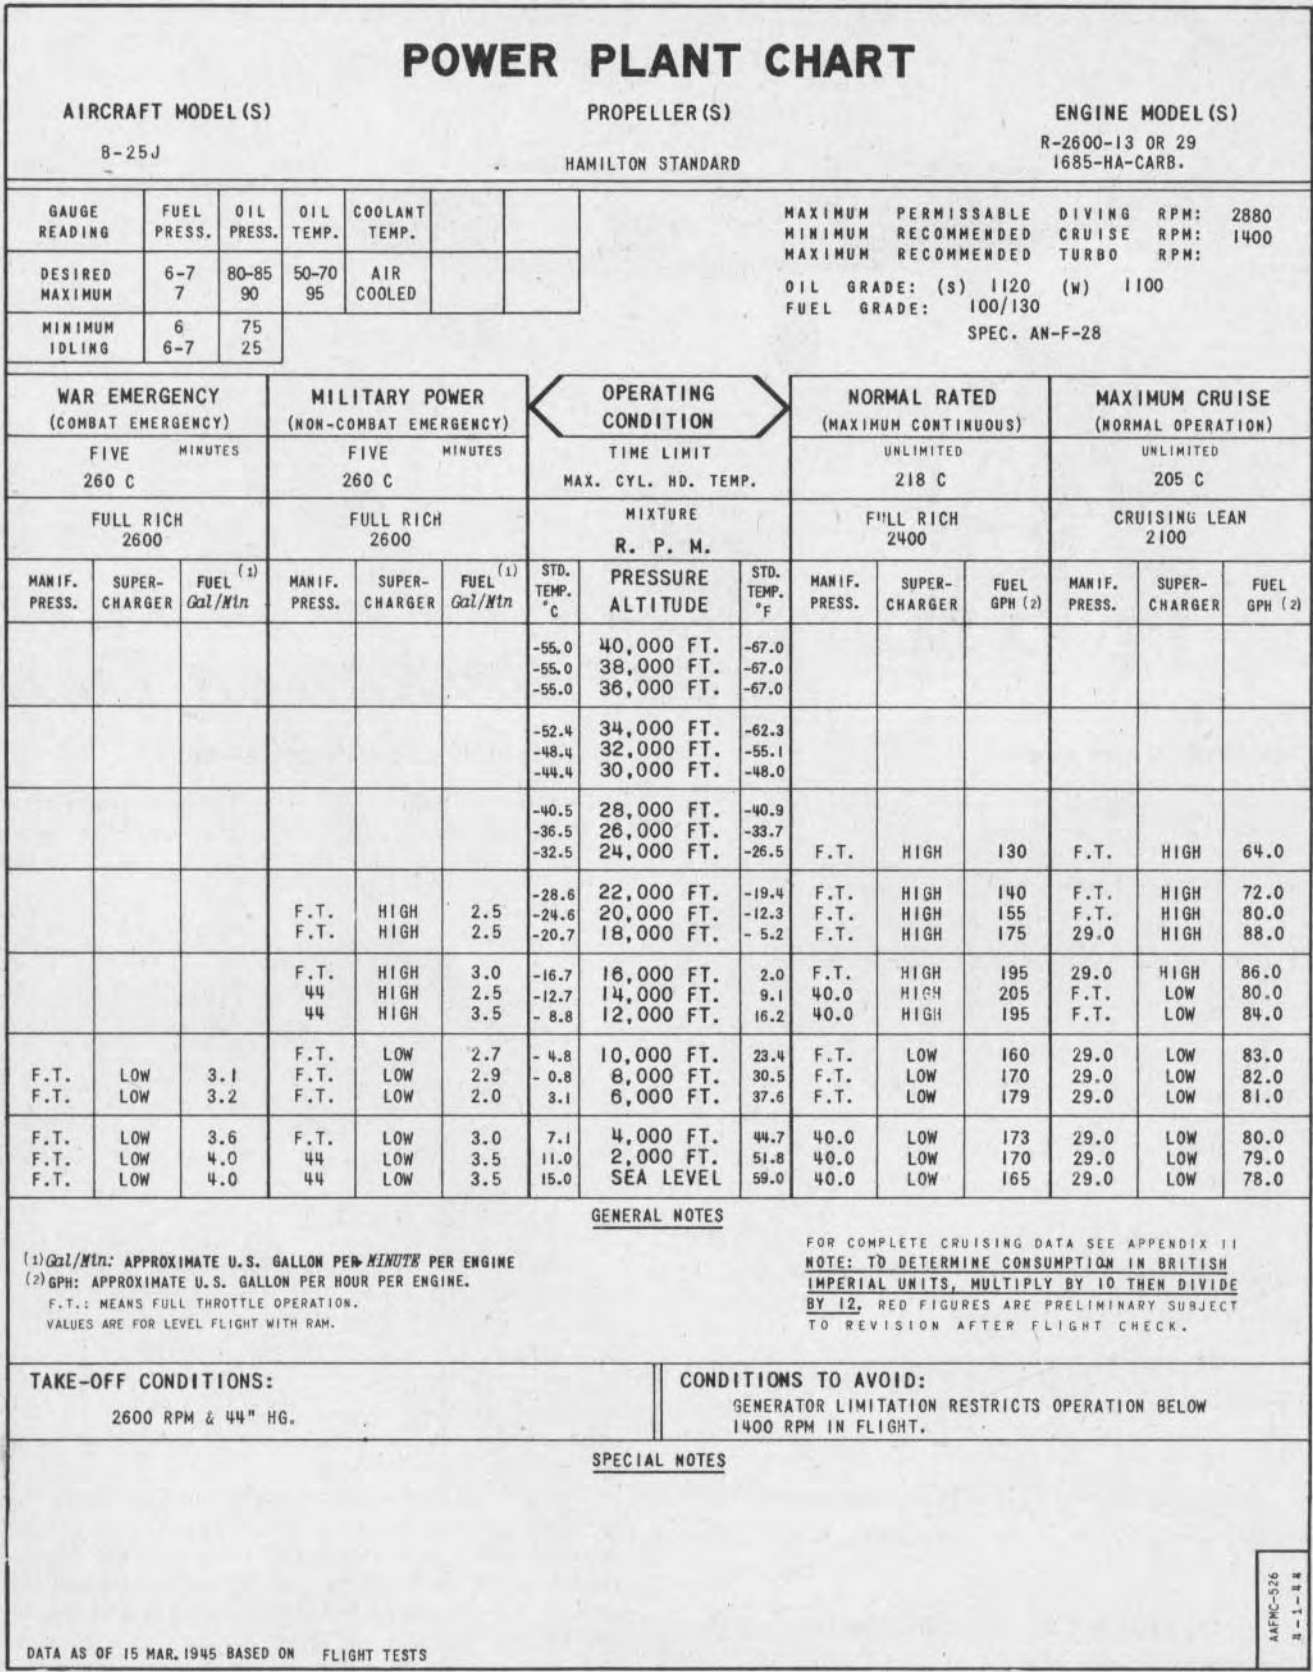

Figure 30—Power Plant Chart—1685-HA Carburetor
* The manifold pressures thus marked are maximum values allowable in agreement with the specific engine flight chart, Fig. 30. All other values listed represent the maximum power obtainable as limited by power surge.
a. Operating limitations and characteristics of the R-2600-13 or R-2600-29 engine, with which this airplane is powered, are summarized for ready reference on the Power Plant Charts. (See figures 30, 30A, 30B, and 30C.) Flight operating personnel should be familiar with and observe this information.
(1) TAKE-OFF.—Maximum recommended for take-off under the specified time limit of five minutes.
(2) WAR EMERGENCY.—Maximum allowed for emergency operation during combat for a period not exceeding five minutes in duration.
(3) MILITARY POWER.—Maximum recommended for operation for periods not exceeding five minutes in duration.
(4) NORMAL RATED.—Maximum recommended for unlimited operation with rich mixture in climb and level flight.
(5) MAXIMUM CRUISE.—Maximum recommended for operation with lean mixture.